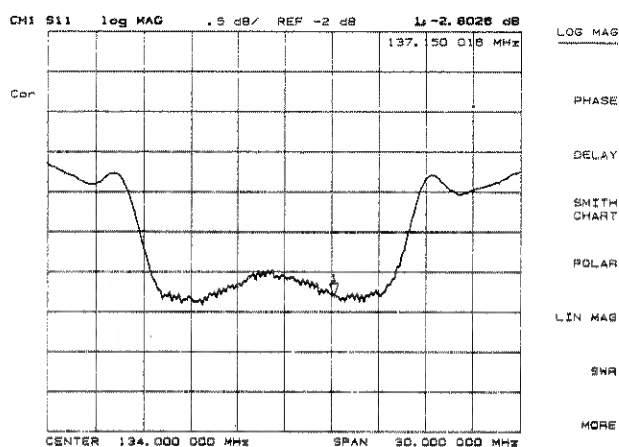

Figure 4-10. Log Magnitude Format
**[LOG MAG]** (LOGM) displays the log magnitude format. This is the standard Cartesian format used to display magnitude-only measurements of insertion loss, return loss, or absolute power in dB versus frequency. Figure 4-10 illustrates the bandpass filter reflection data in a log magnitude format.